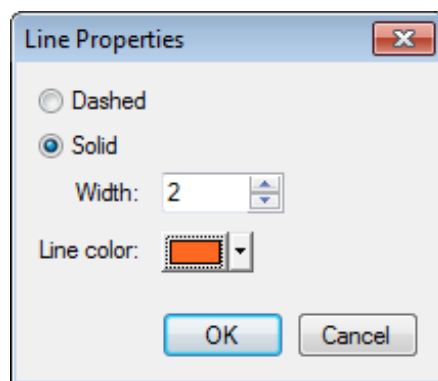

Figure 17 *Line Properties dialog*
7. On the *GIS* tab, click on the wide button to the right of *Lines* (the button to the left of the drop-down arrow button) to bring up the *Line Properties* dialog (Figure 17).